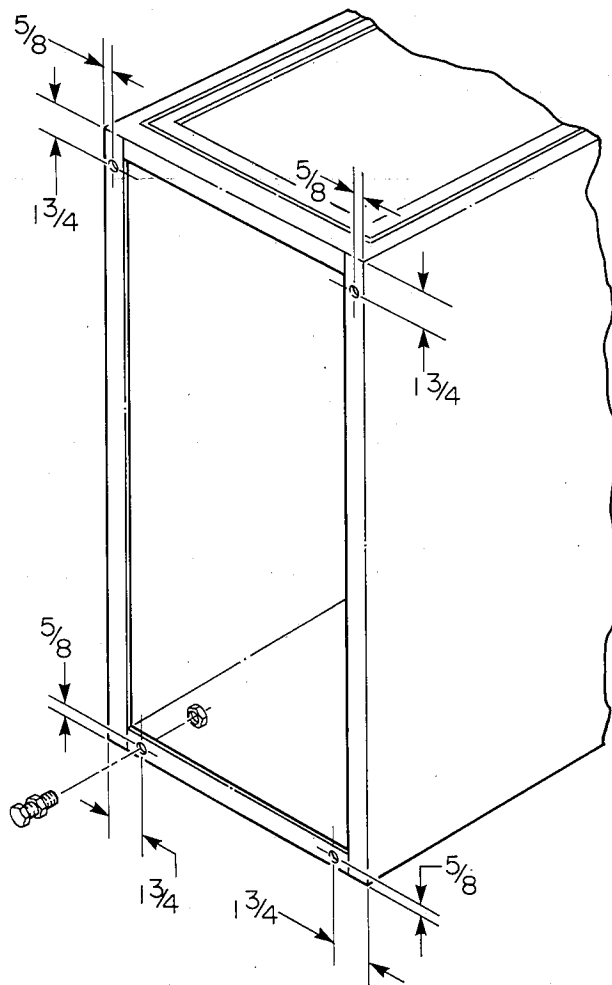

Fig. 2—Leveling Leg Installation
When the furnace is used with side inlet(s), and leveling legs are required, refer to Fig. 2, and install field-supplied corrosion-resistant 5/16-in. machine bolts and nuts.
1. Position furnace on its back, locate and drill a 5/16-in. diameter hole in each bottom corner of the furnace as shown in Fig. 2.